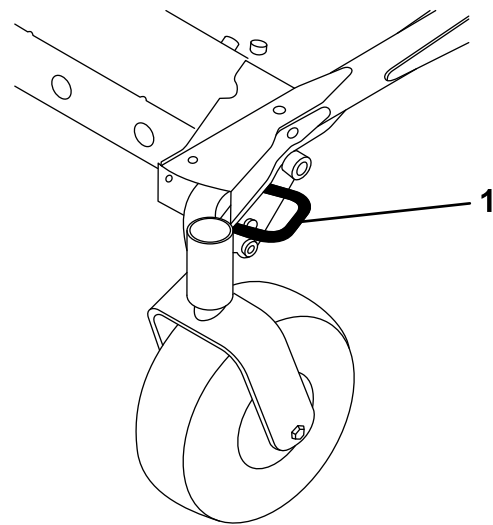

Figure 59
- Securely fasten the machine to the trailer or truck with straps, chains, cable, or ropes as required by local traffic regulations in your area (Figure 59).